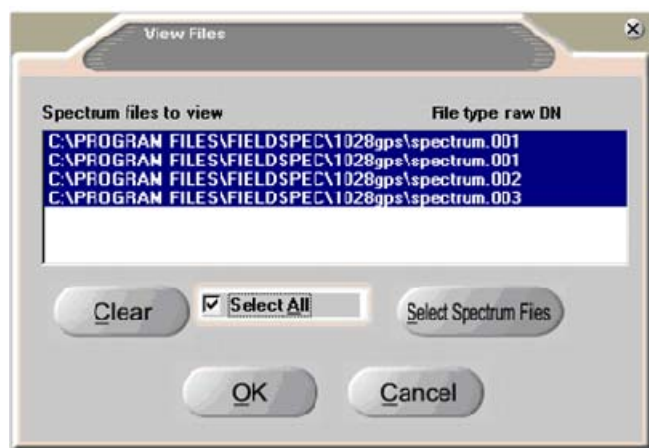

Figure 3-44: Select files to view
Step 3 Select up to five files to view—or click on the *Select All* check box—then press the *OK* button (Figure 3-44).